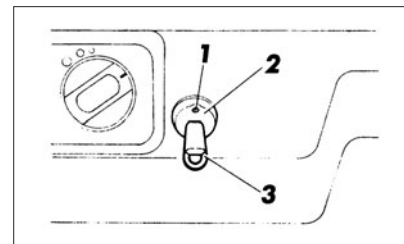

Fig. 20. Instrument panel (fragment)
1. After opening of any of the doors or short-time ignition switch-on (if door switch is out of order) immobilizer switches over to «code reading readiness» mode for 30 seconds – light indicator 1 (Fig. 20) of signaling sensor 2 is blinking with double frequency.
2. During this time interval approach working code key 3 to indicator sensor. After code reading immobilizer unit identifies its validity – light indicator glows for 2 seconds and goes out and enables electronic engine control unit thereby enabling engine starting.